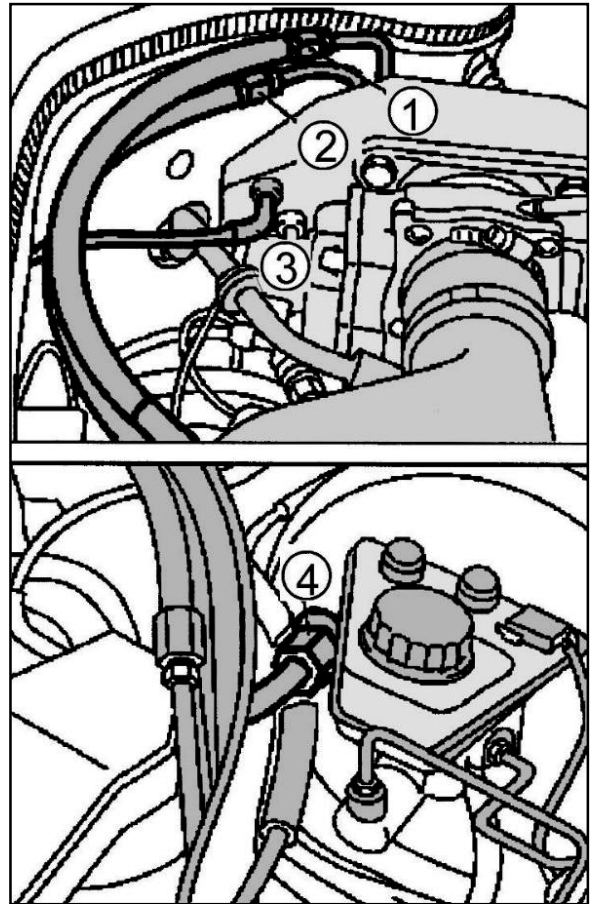

Fig. 1.10 – The two fuel hoses (1) and (2) must be disconnected from their connections. Vacuum hoses (3) and (4) are connected to the inlet manifold.
- Refer to Fig. 1.10 to familiarise yourself with the connections of the fuel pipes. Disconnect the two fuel pipes (1) and (2) from their connections. Remove the vacuum hoses (3) and (4) from the inlet manifold.